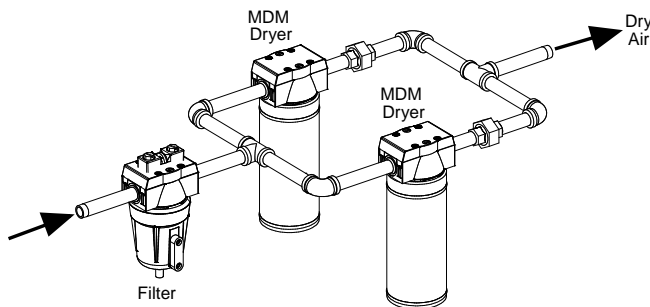

Figure 2.2
7. Multiple Dryers for Higher Capacities - Multiple dryers in parallel (see Figure 2.2) can be used to increase capacity beyond that available with a single dryer. All the dryers should be the same model. It is not necessary to provide any mechanism to balance flows between the dryers. Installing prefilters upstream is preferred (for pressure-drop balance and cost). Size prefilters for the combined flow. Figure 2.2 does not show valves that could be used to isolate one dryer; valves are not recommended, but if used, identical valves and configuration must be used for all dryers.